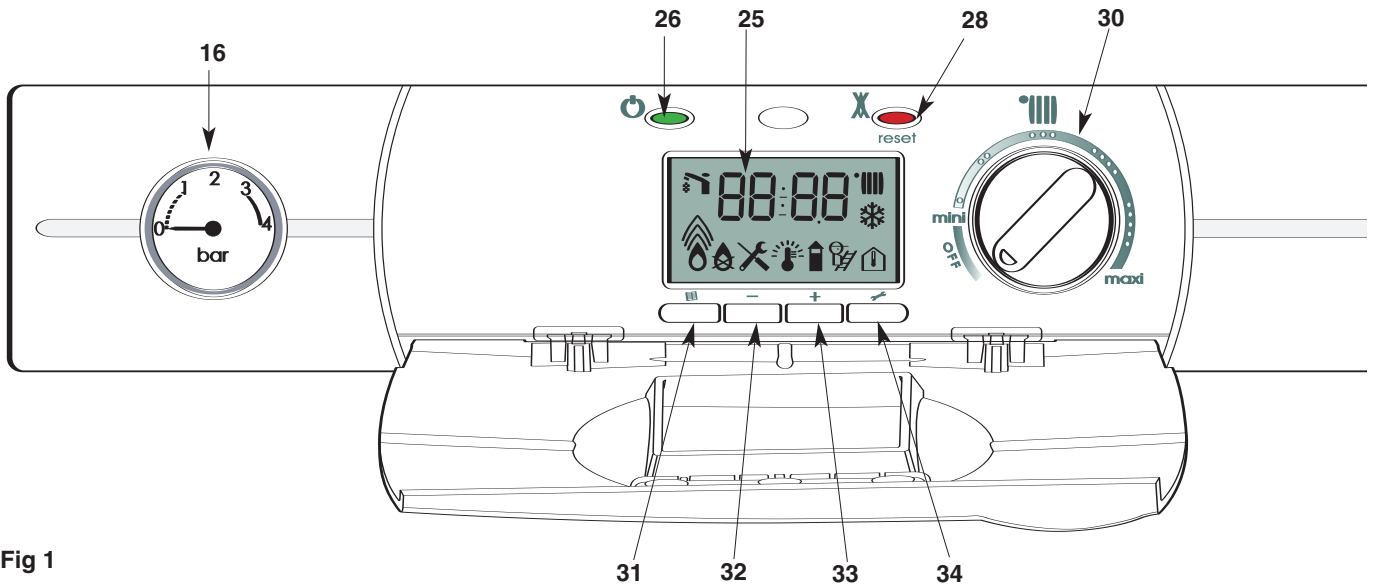

Fig 1
Control panel (Fig.1)
1. Check that the pressure in the central heating system is above 0.7 bar and below 1.5 bar on the pressure gauge **16** (Fig. 1) should it be necessary to re-pressurise the system, ensure the filling loop **45** (Fig. 2) is attached, open the filling taps **43** & **44** (Fig. 2), the pressure gauge will now start to rise, once the pressure reads 1.0 bar, close the filling taps and disconnect the filling loop, periodically check the pressure gauge for correct pressures.
2. Check that the gas service tap is opened at the gas meter and main power is on. Green indicator **26** (Fig. 1)  lit.
Turn the Central heating knob (**30** Fig.1) between mini and maxi.
Turn the control knob **30** (Fig. 1) to the **OFF** position to deactivate the Central Heating. Leave the ON/OFF button (**26** Fig. 1) On (green light).
Press the ON/OFF button (26 Fig.1) the green light will go out.